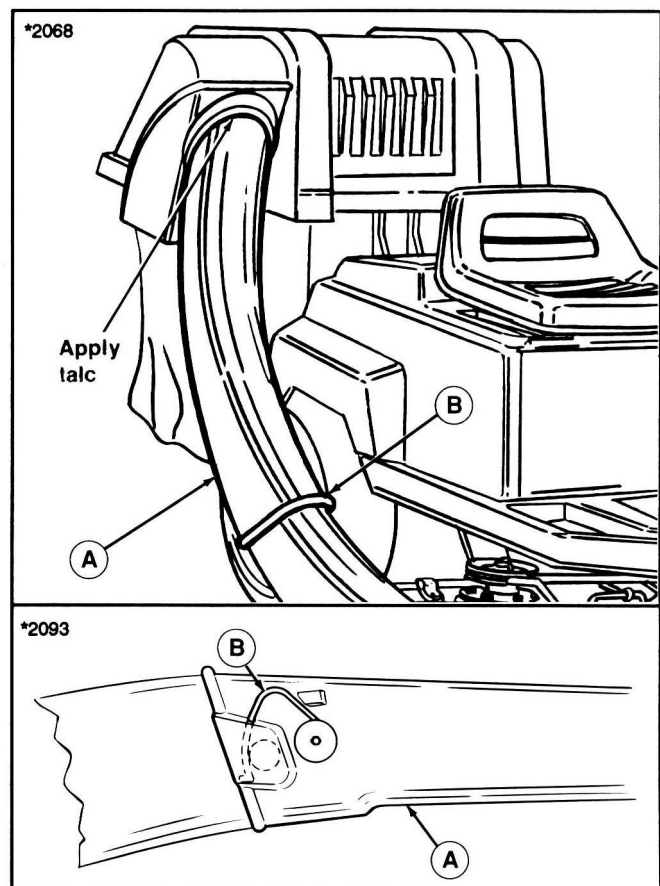

Figure 5.
5. Apply dry talc to rubber seal at cover opening. Install tube (A, figure 5) as far as possible into opening to clear adapter and install over adapter. Secure by rotating wire form (B) down into locked position over puck on adapter.